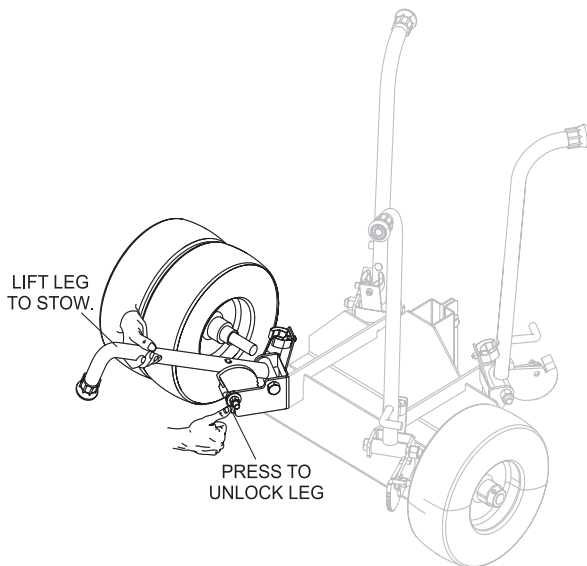

Figure 16. Stand Legs Stored
6. When balloon and mast are removed and stored, the MBS stand legs can be stowed as shown in Figure 16.